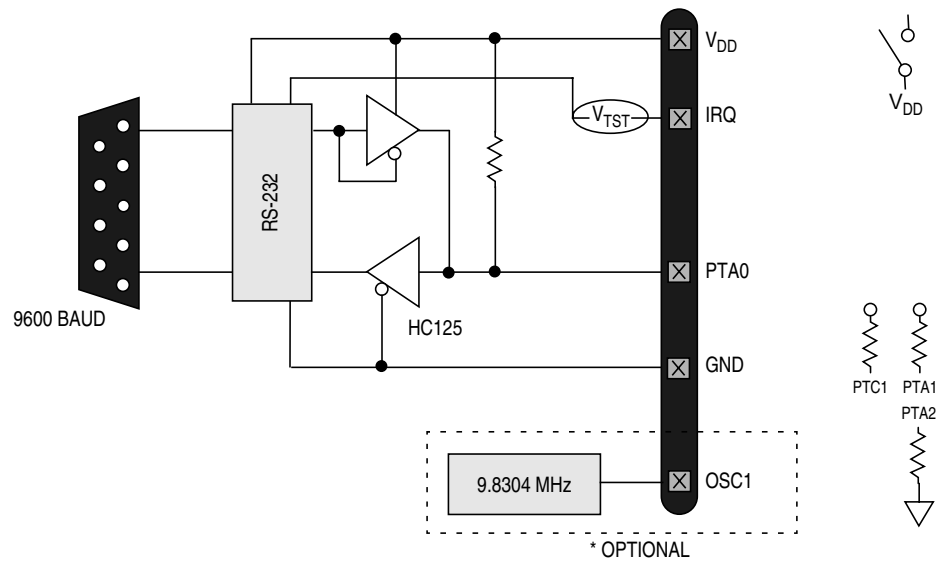
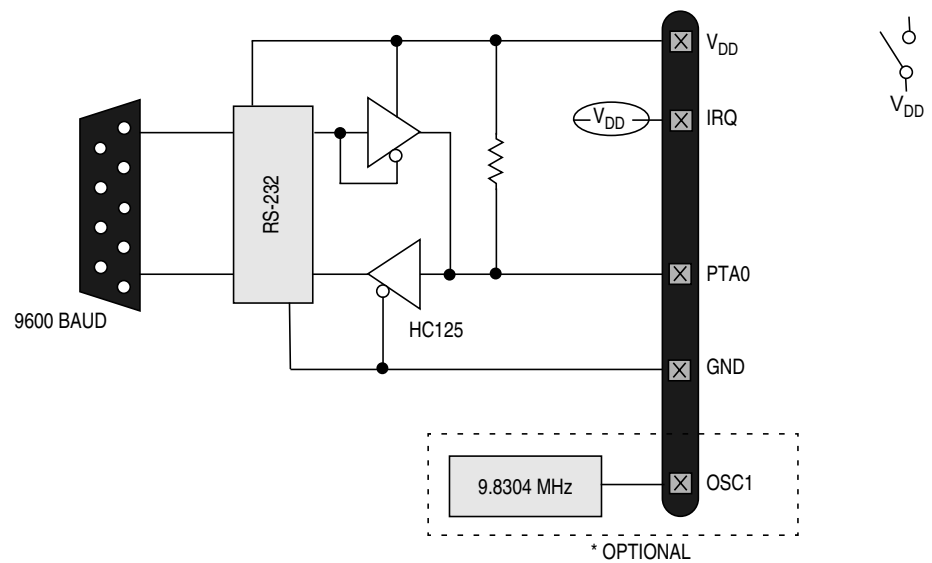
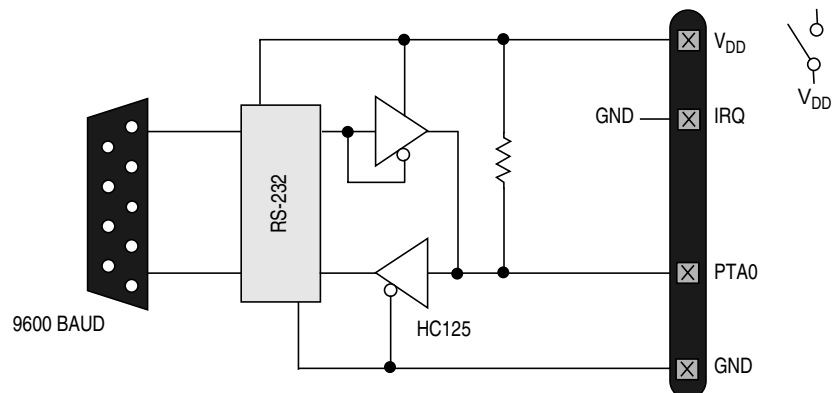

Figure 4. MC68HC908SR12 Standard Monitor Mode (9.8304 MHz)
Figure 5. MC68HC908SR12 Forced Monitor Mode (9.8304 MHz)
Figure 6. MC68HC908SR12 Forced Monitor Mode (32.768 kHz)
- c. The external communications circuit. Also needed is a 5-volt power source to power this circuit (see Figure 4, Figure 5, and Figure 6).
2. Connections (see Figure 4):
- a. Blank part with oscillator value from Table 2 (divide-by-4 options). See Figure 5. If the crystal oscillator in the target application is not a value listed in Table 2, it is possible to “overdrive” the target crystal with an external clock for the short duration of the programming sequence. An example of this would be overdriving a target’s 32.768-kHz crystal with a 9.8304-MHz external clock.
- b. Blank part with a 32.768-kHz oscillator. See Figure 6.